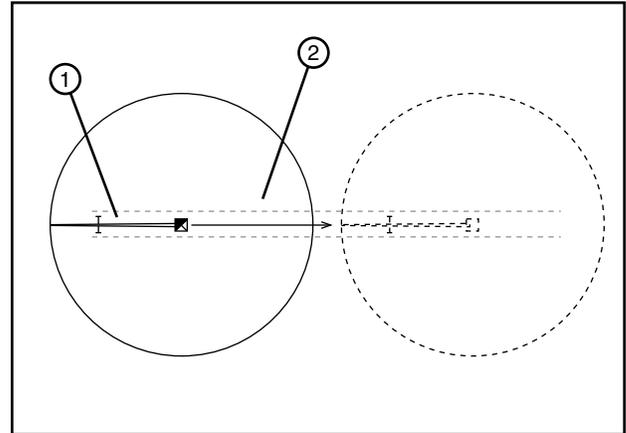

Figure 37-1 1. Machine
1. Position the machine in the tow lane. See figure 37-1.